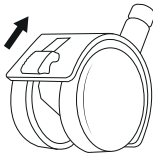

Fig. 1
- ◆ The appliance comes with four castors **8/9** for easy transport. Release the levers on the two castors with locking levers **9** by pushing the levers upwards (see fig 1). The appliance can now be rolled conveniently.